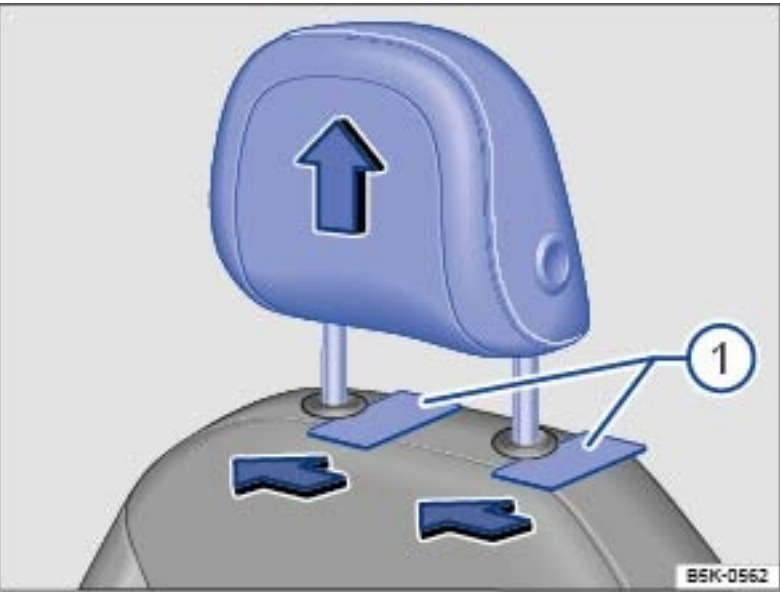

Fig. 44 Removing the front head restraints.
- ▶ Slide a flat object, such as a plastic credit card, underneath the right side of the cap (left side if sitting behind the head restraint) on the right-hand seat guide rod → Fig. 44 ① to unlock the head
- › Push the head restraint down → Fig. 44.